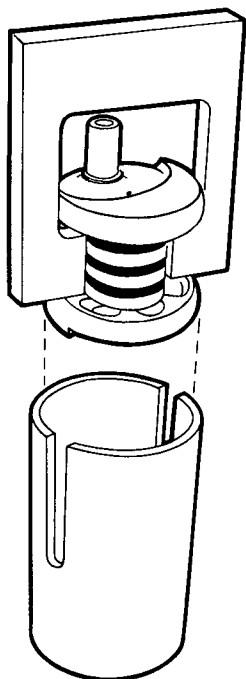

Fig. 16
- (a) Fit horseshoe piece over centre flywheel assembly (*Figure 16*).